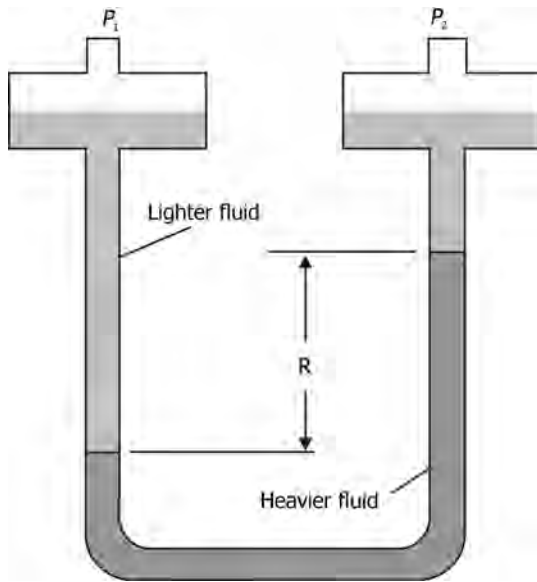

FIGURE 1.11 Two-liquid manometer.
- A two-liquid manometer, a highly sensitive device, is used for measuring small pressure differences. Figure 1.11 shows a two-liquid manometer.